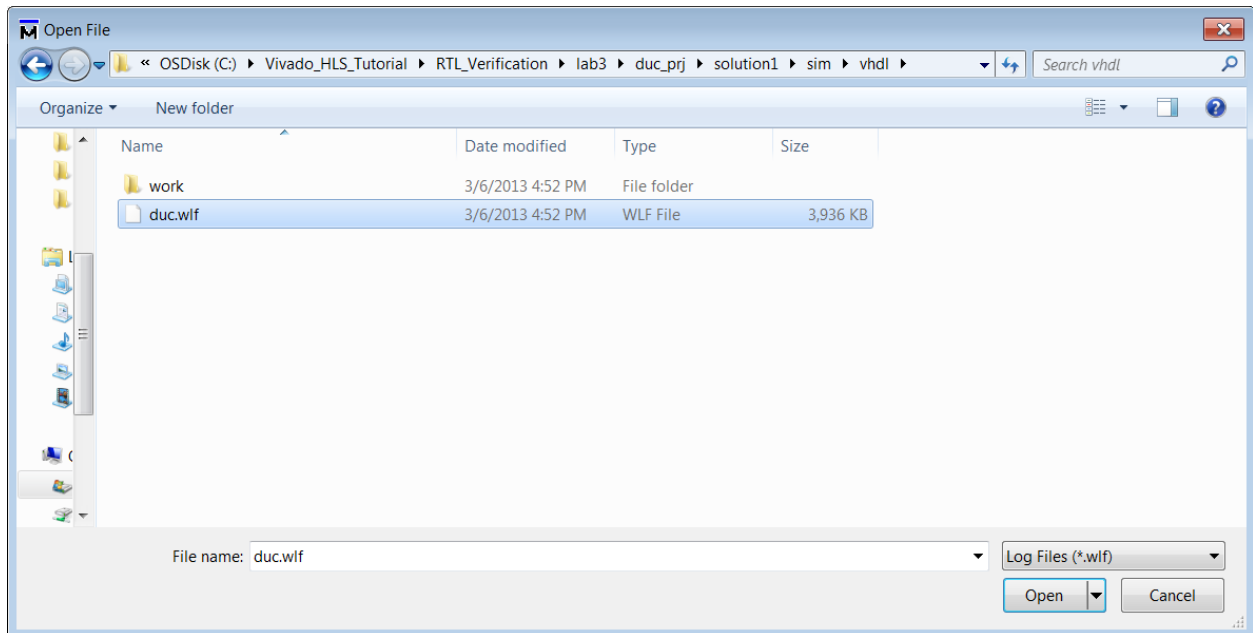

Figure 181: ModelSim Open File WLF
3. Select **Log Files** as the file type (Figure 181).